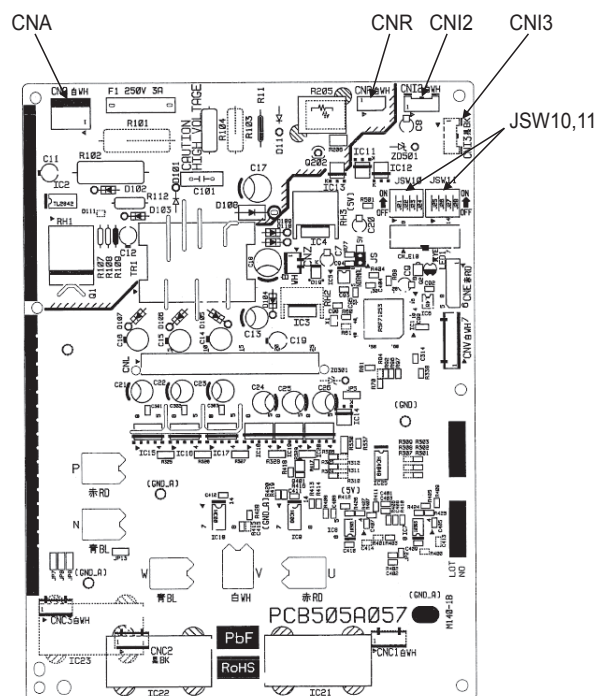

Fig.1 Part Arrangement View
1. Check parts numbers. (For each indication part, refer to Fig.1 Parts arrangement View.)